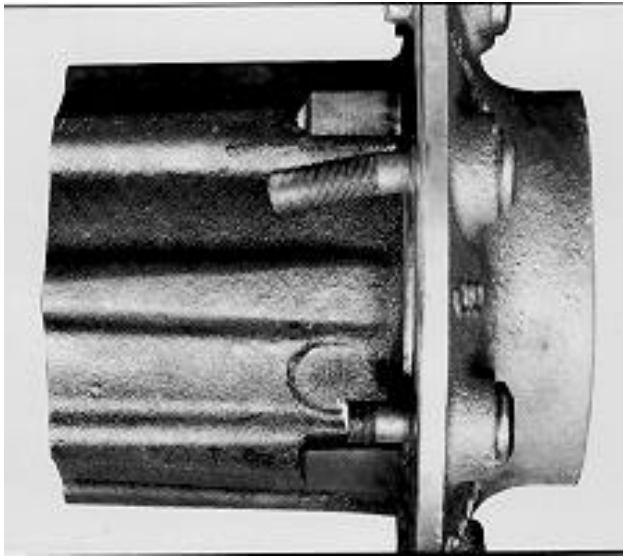
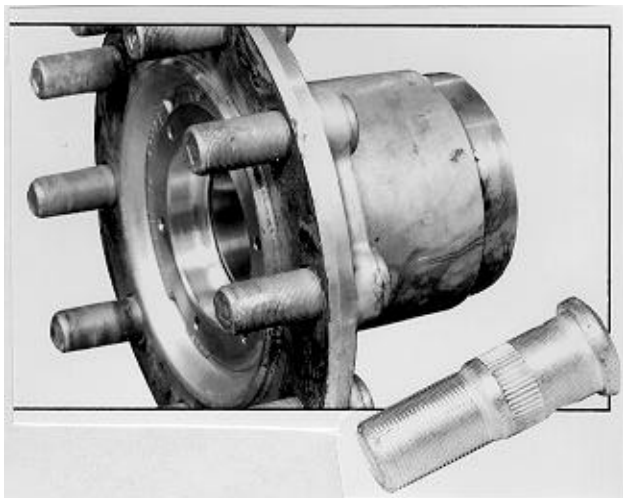

Figure 34 Broken Threads
Figure 35 Stripped Threads
3. Broken or Stripped Threads Wheel Stud (Figure 34 and Figure 35) Replace studs.